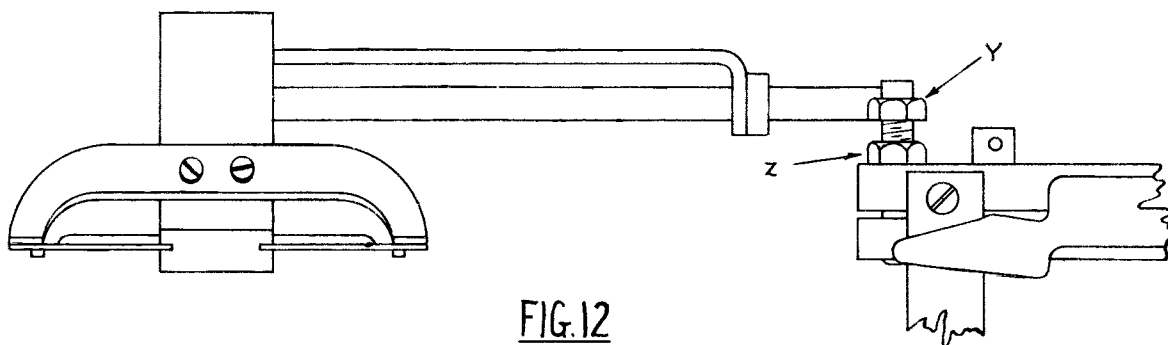

FIG. 12
- 21 ADJUST THE HEIGHT OF THE RIBBON BY SCREW Y (FIG 12) UNTIL TOP EDGES OF TYPE PAD AND RIBBON ARE LEVEL, WHEN THE TYPE STRIKES THE RIBBON. CLAMP BY LOCK-NUT Z.